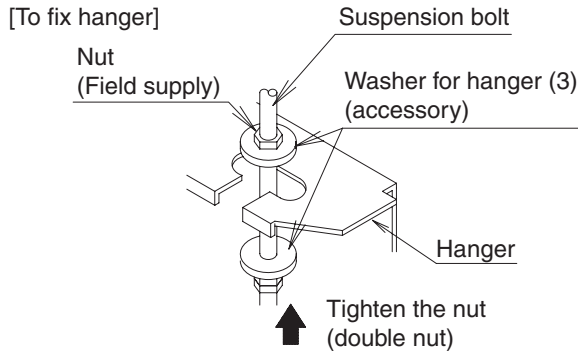

Fig. 7
- (1) Install the indoor unit temporarily.
- Connect the hangers to the suspension bolts. Be sure to use and tighten the nut and washer (3) for each hanger from both upper and lower sides of the hanger. **(Refer to Fig. 7)**